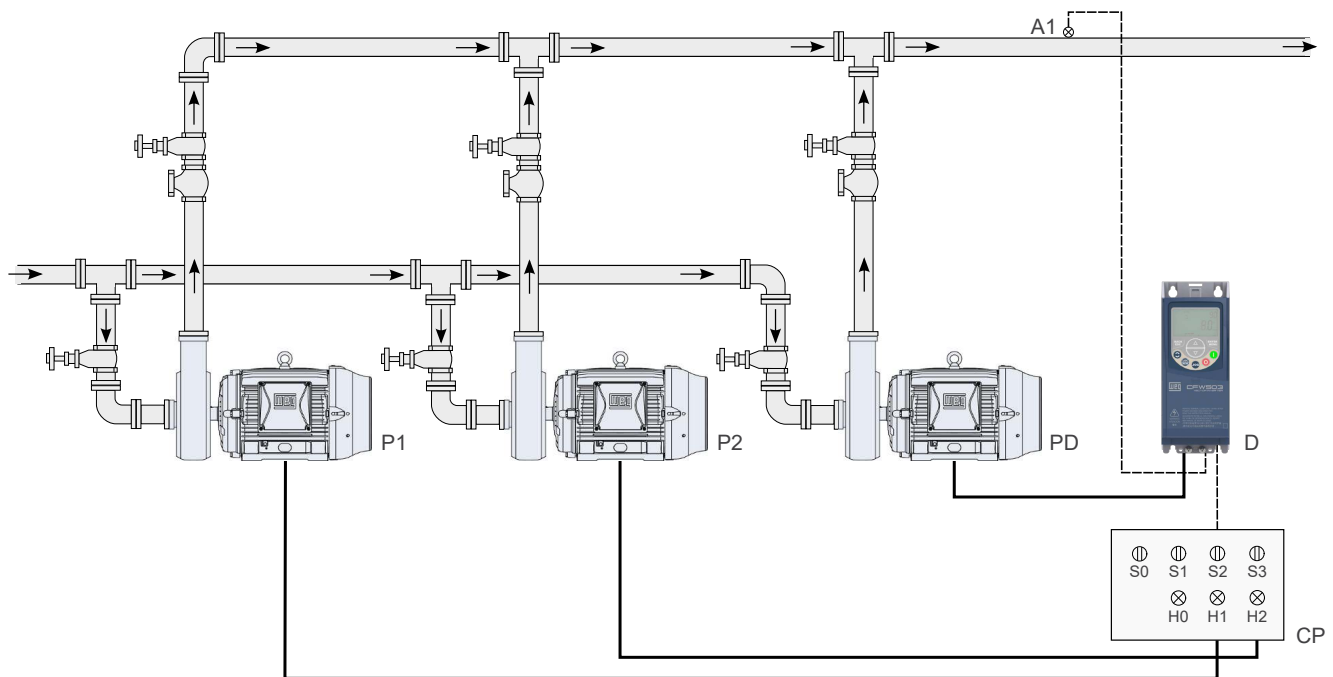

Figure 4.15: Pump Genius Multipump application with fixed control, four pumps in parallel and control setpoint via HMI
The Figure 4.15 at page 4-16 presents a typical system with four pumps in parallel and control setpoint via HMI basically composed of:
The pumps 1 to 3 can be driven by contactors (direct on line or star delta start), softstarter, intelligent relays, etc. The signals H1, H2 and H3 are not necessary for the operation of the Pump Genius Multipump with fixed control, 3 pumps in parallel and control setpoint via HMI, because they only serve to indicate the operating condition of the pumps on the command panel (CP). In the Figure 4.15 at page 4-16, the signals H1, H2 and H3 come from auxiliary contacts of contactors K1, K2 and K3 which start the pumps 1, 2 and 3.